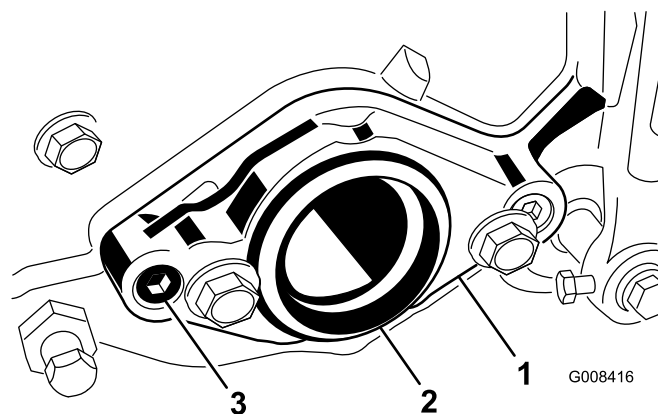

Figure 14
- B. On right end of cutting unit, remove plastic plug from bearing housing (Figure 14).
- C. Remove the 2 allen head screws securing the motor mount to the right end of the cutting unit. Remove the motor mount (Figure 14).